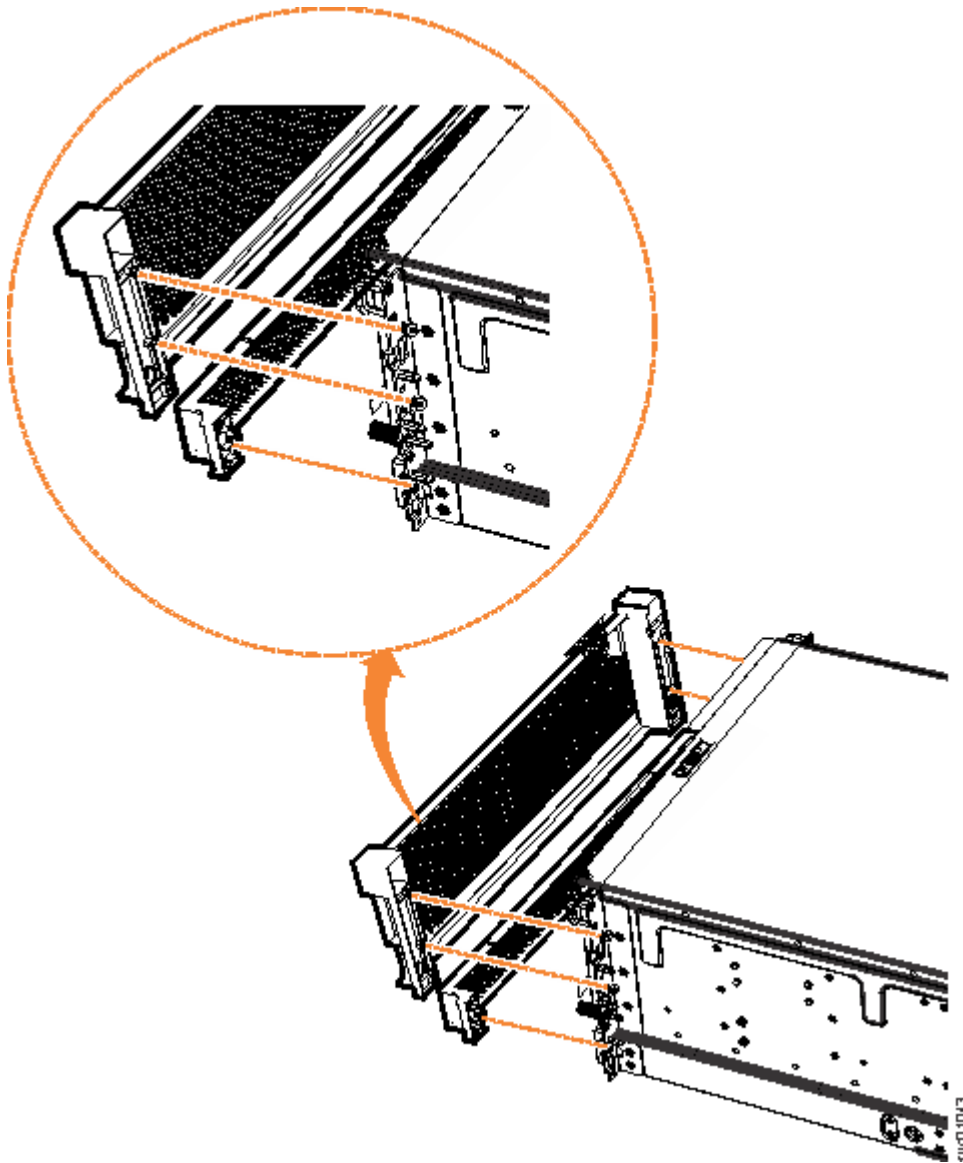

Figure 166. Remove fascia components from the expansion enclosure
2. Remove the front fascia by removing the two screws that attach the fascia to the flange on each side of the chassis, as shown in Figure 166 on page 197.
3. Gently pull on each side of the PSU fascia to remove it from the chassis, as shown in Figure 166 on page 197. The PSU fascia disengages from the slot and pin that connect it to each side of the chassis.